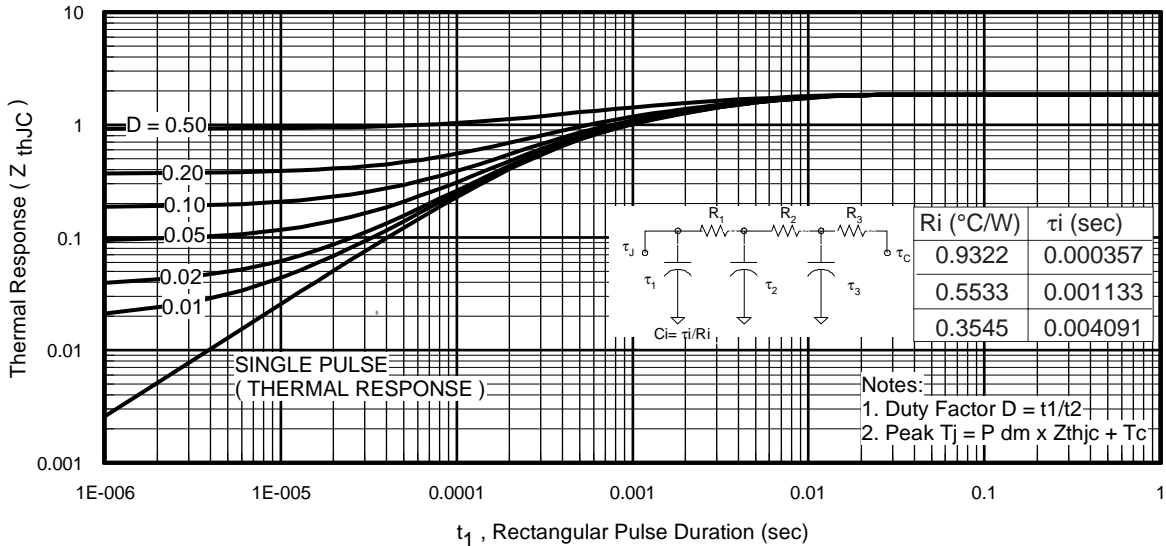

Fig 11. Maximum Effective Transient Thermal Impedance, Junction-to-Case
- ① Repetitive rating; pulse width limited by max. junction temperature. (See fig. 11).
- ② Limited by T_{Jmax} , starting $T_J = 25^\circ\text{C}$, $L = 0.13mH$, $R_G = 25\Omega$, $I_{AS} = 31A$, $V_{GS} = 10V$. Part not recommended for use above this value.
- ③ $I_{SD} \leq 31A$, $di/dt \leq 1070A/\mu s$, $V_{DD} \leq V_{(BR)DSS}$, $T_J \leq 175^\circ\text{C}$.
- ④ Pulse width $\leq 1.0ms$; duty cycle $\leq 2\%$.
- ⑤ $C_{oss\ eff.}$ is a fixed capacitance that gives the same charging time as C_{oss} while V_{DS} is rising from 0 to 80% V_{DSS} .
$Z_{thJC}(D, t_{av})$ = Transient thermal resistance, see figure 11)